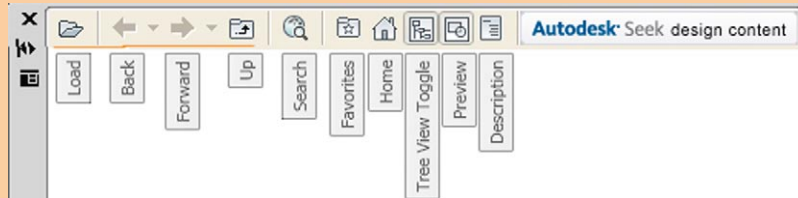

Fig. 9.11 The icons at the top of the **DesignCenter** palette
2. *Clicks* on one of the three icons at the top-right corner of the palette (Fig. 9.11) have the following results**.